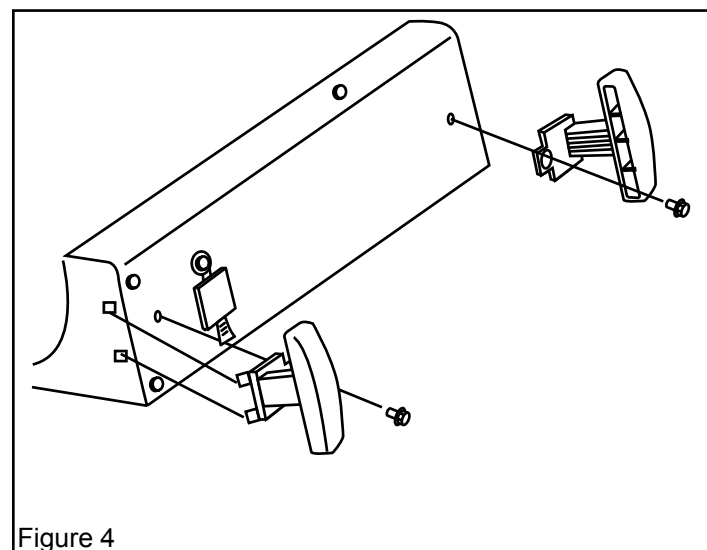

Figure 4
1. Insert tabs into square slots in shell support and line up screw holes as shown in Figure 4.